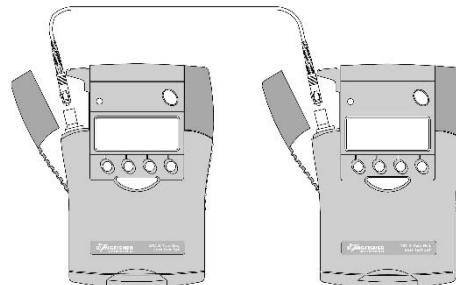

Figure 9. Test setup for Two Way Calibration Accuracy Test
3. To check accuracy, remove the test lead on one instrument and re-connect the other test lead as in Figure 9.